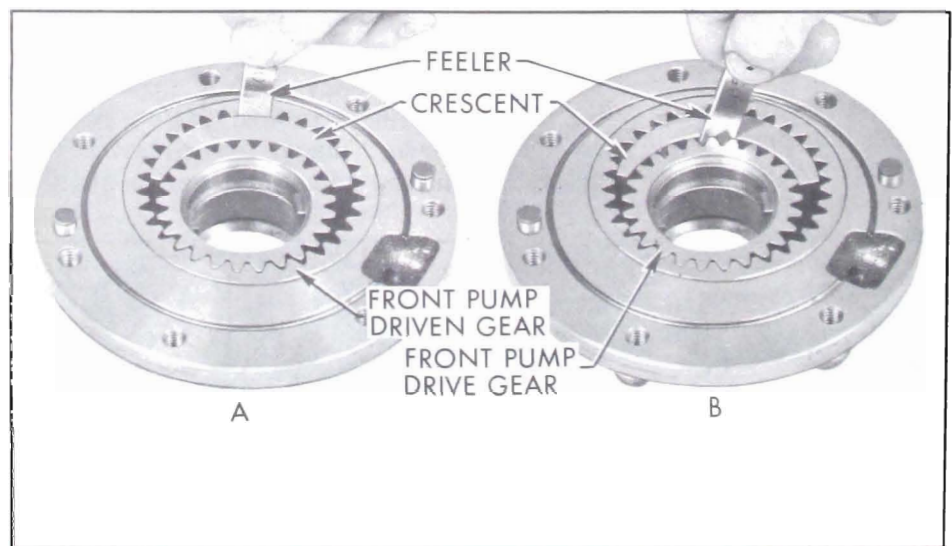

Figure 5-82—Checking Clearance Between Crescent and Gears
7. Insert feeler gauge between crescent and driven gear to check clearance, which should be .005" to .009" on front pump and .0045" to .007" on rear pump. See Figure 5-82, view A.
8. Insert feeler gauge between crescent and driving gear to check clearance, which should be .010" to .016" on front pump and .006" to .012" on rear pump. See Figure 5-82, view B.
3. Lubricate and install gears in front pump body. The driving gear must be installed with the beveled side outward so that this side will be against the cover when pump is installed. See Figure 5-82. Reversing this gear in pump body will result in severe damage to the transmission.